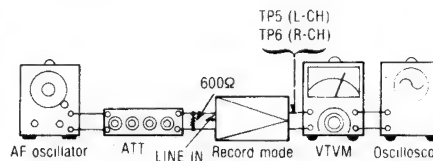

Fig. 18
- Test equipment connection is shown in fig. 18.